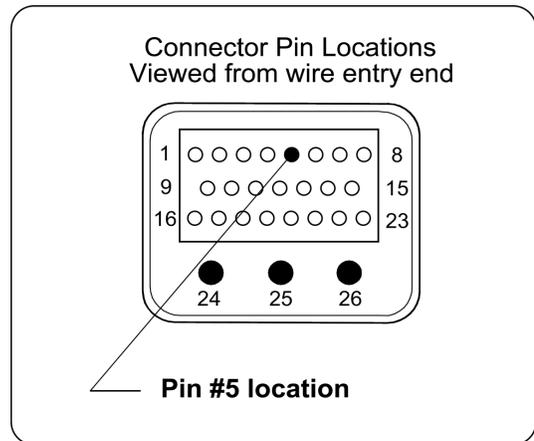

Figure 3
- Locate one of the matching colored wires in the wiring harness. Confirm the wire is installed in the correct pin location of the connector P1 (see connector detail in Figure 3). Unsnap the flap on a blue T-splice exposing the side wire slot. Position the blue T-splice 2" or 3" from the Sea-Doo connector with side of the splice with the two holes facing away from the Sea-Doo connector (see Figure 3). Slide the Sea-Doo wire into the side slot then snap the flap over this wire slot side only, to hold the wire in place. Do not close the larger flap over the metal contact on the top.
3. Now connect the White wire from the T4 Ignition to the White wire of the Sea-Doo® in the same manner as the other wires, Then follow steps 4 and 5 that follow, be sure to locate the correct white wire in the Sea-Doo connector using Figure 3 as a guide.